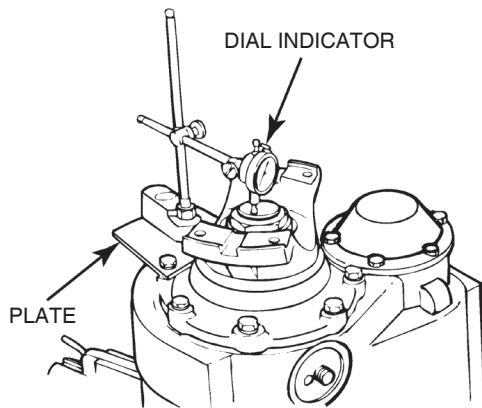

Figure 5.85
- B. Use a dial indicator with a magnetic base or a clamp base to inspect the clearance of the input bearing. Verify that the pointer of the dial indicator is against the top of the input shaft. Set the dial indicator to ZERO. Figure 5.85.